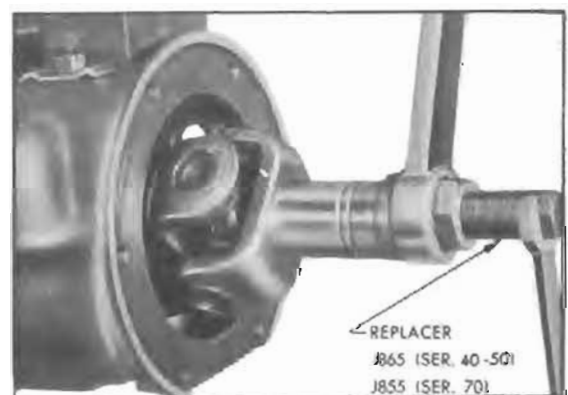

Figure 4-147—Installing Universal Joint
3. Make sure the universal joint retaining ring is fully seated in groove in output shaft, then install universal joint using Replacer J 865 (Ser. 40-44-50) or J 855 (Ser. 70) to draw universal joint snug against retaining ring. See figure 4-147.